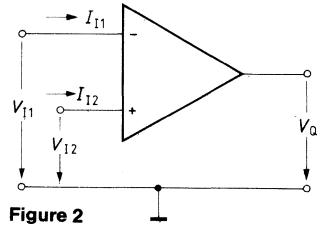

Figure 2
a) Input offset voltage V_{IO} is that voltage difference which must be applied to the input terminals to achieve an output voltage of 0 V (**figure 2**).
b) Input current I_I is the average static input current required for op amp operation (**figure 2**).
c) Input offset current I_{IO} is the difference between the input currents in the operating range. At high values of generator resistance, I_{IO} may cause difficulties (**figure 2**).